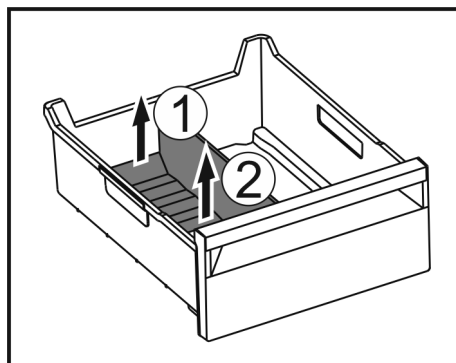

Fig. 170
- ▶ Lift the rear part of the ice compartment divider. Fig. 170 (1)
- ▶ Remove the ice compartment divider upwards. Fig. 170 (2)